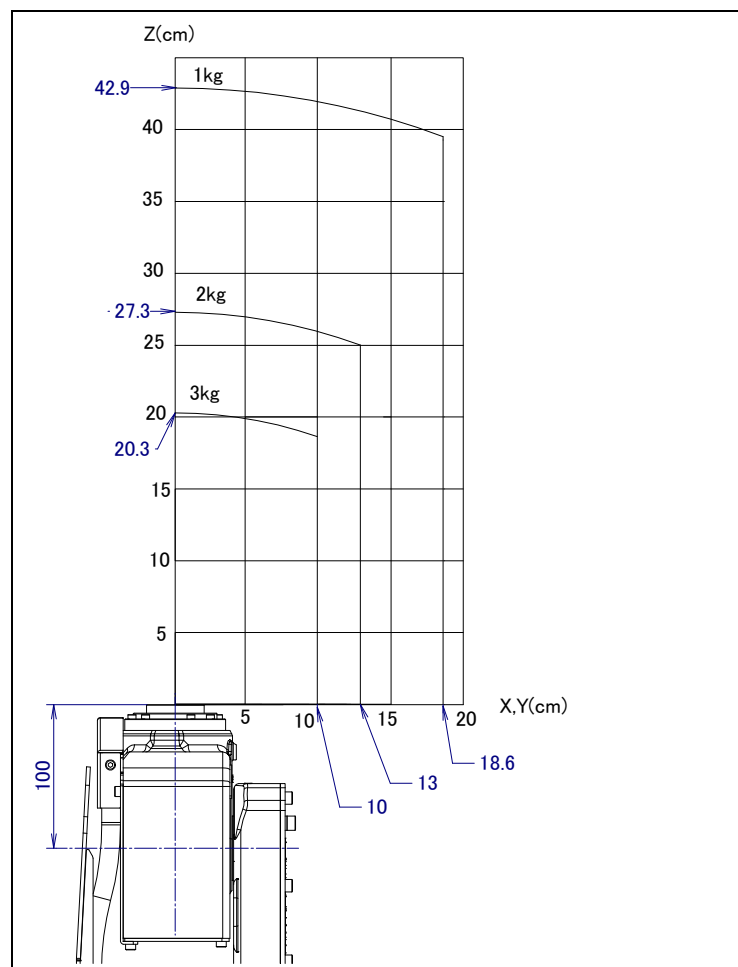

Fig. 3.4 Wrist load diagram
- Fig. 3.4 is a diagram showing the allowable load that can be applied to the wrist section.